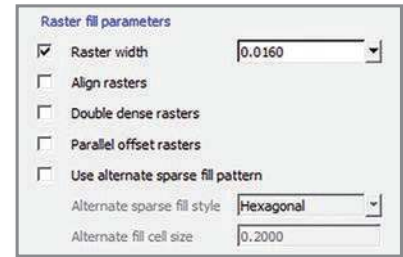

Figure 8: Raster width can be selected using a drop-down menu found in the Raster fill parameters.
STEP 8: Under the **Raster fill parameters** section, select a size from the **Raster width** drop-down menu (Figure 8). Alternatively, you can type the value in this field. Click  to confirm both selections.